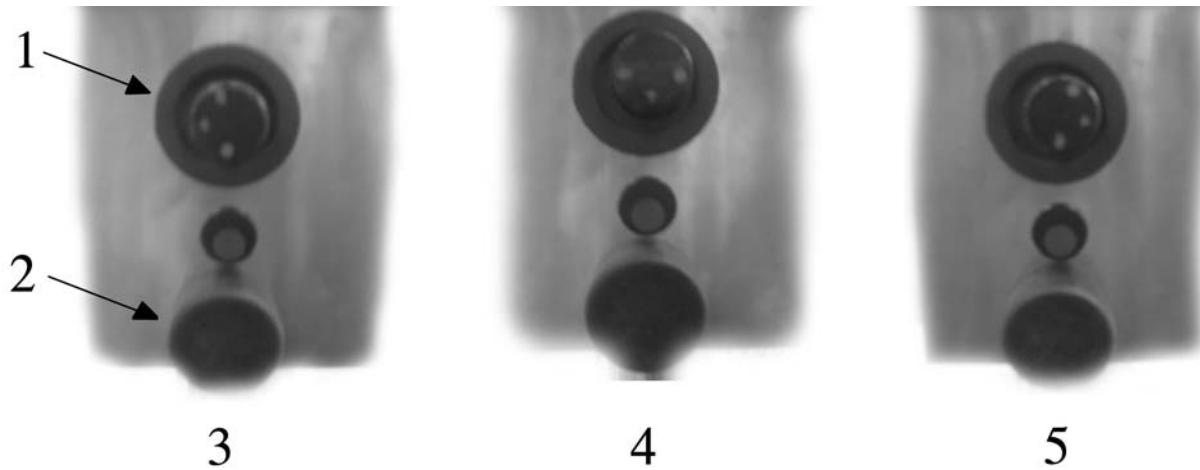
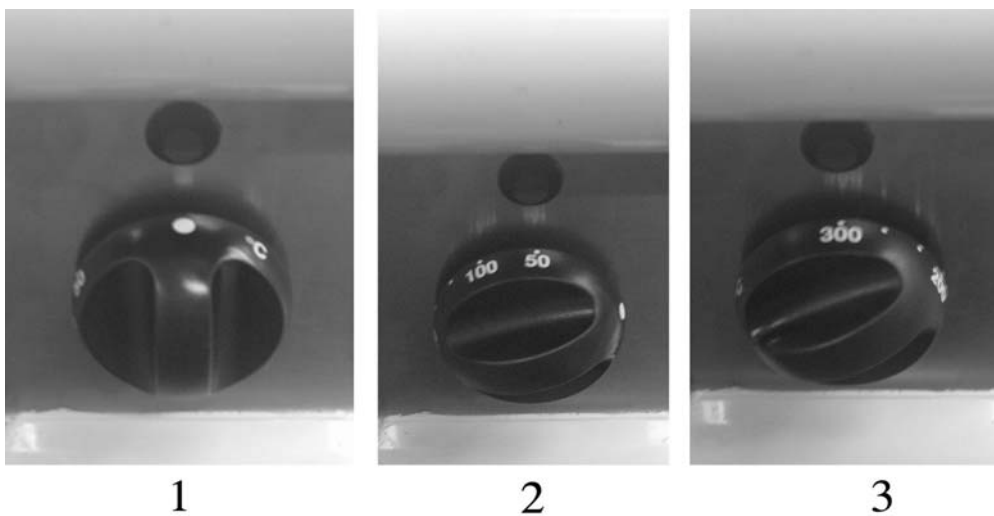

Fig. 2
Fig. 3
Turn the knob towards the right position in Fig. 3 until the pos. 2 in Fig. 3.
Push the knob slightly item 1 in Fig. 2 and turn it up to the position marked with spark in item 4 in Fig. 2. Hold the knob down, then press the piezoelectric ignition button in item 2 in Fig. 2 for lighting the pilot flame, check for the ignition by appropriate inspection hole (pos. 6 in Fig. 1).
Once you verified that the pilot flame is lighted on, turn the button further as shown in item 5 in Fig. 2.
If you turn the knob further in Fig. 3 the bottom of the tank will start heating. Heating is through heat spread by tubular stainless steel burners which can withstand mechanical and thermal stress.
To switch off the main burner, turn the knob towards the left to the position in the item 1 in Fig. 3; only the pilot flame will remain lit. Exercise a slight pressure and turn the button in Fig. 2 up to the item 3 to switch also the pilot flame.